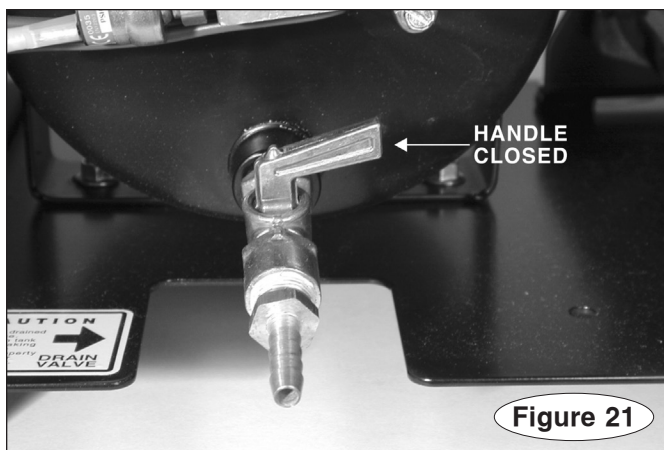

Figure 21
4. Check to make certain that the handle on the air tank drain valve (Figure 21) is closed.